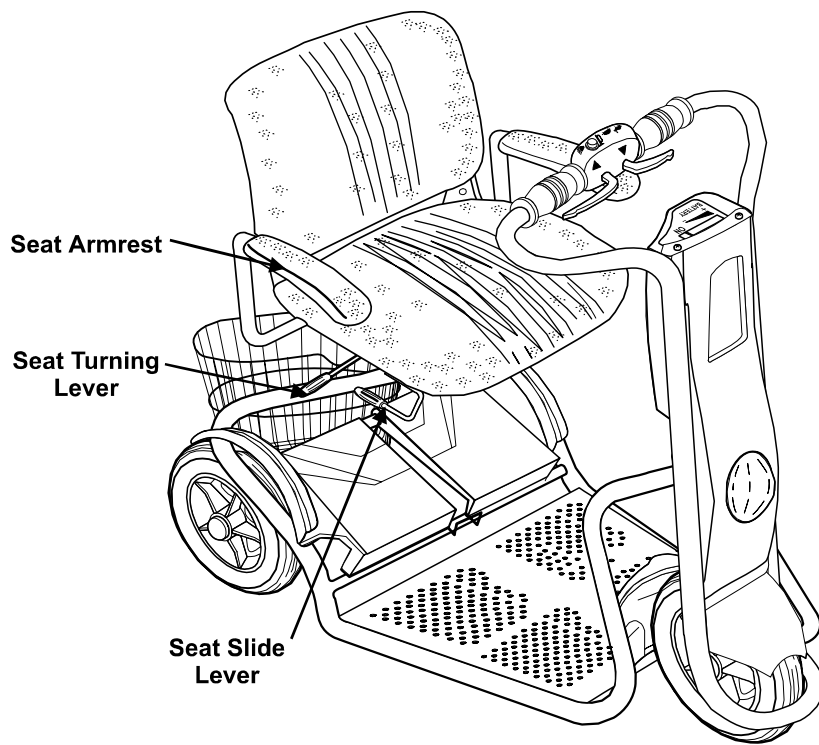

Figure 9.
- a. For comfort entering into the **SUPERLIGHT** (See Figure 9).
- d. Use the **Seat Slider Lever** to adjust the **Seat** forward/Backward (See Fig. 9).